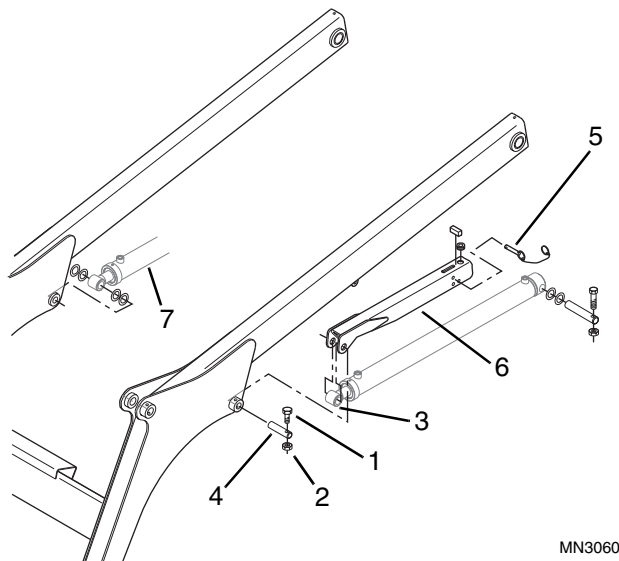

Figure 9-14 Loader Arm Cylinder Pivot Pin
7. Remove the capscrew (Fig. 9-14, 1) and hex elastic locknut (2) securing the left cylinder rod end pivot pin (4) to the loader arm.
8. Drive the rod end pivot pin (Fig. 9-14, 4) from the outside of the loader through the Operator's Protective Structure.
9. Remove the safety support pin (Fig. 9-14, 5) from the rear of the safety support (6), and remove the safety support from the loader arm.
10. Repeat Step 6, 7, & 8 to disconnect the right loader arm cylinder (Fig. 9-14, 7). Tag the shims removed, noting quantity and location for reinstallation later.